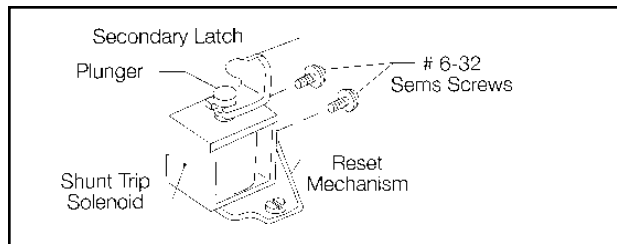

Figure 1.
- 2.) Align the shunt trip solenoid on the reset mechanism. Make sure that the secondary latch is positioned inside the groove of the solenoid plunger. (See Figure 1)
- 3.) Secure the shunt trip solenoid with the two #6-32 SEMS screws provided. (See Figure 1) Note: Torque screws to 18-20 in. lbs.